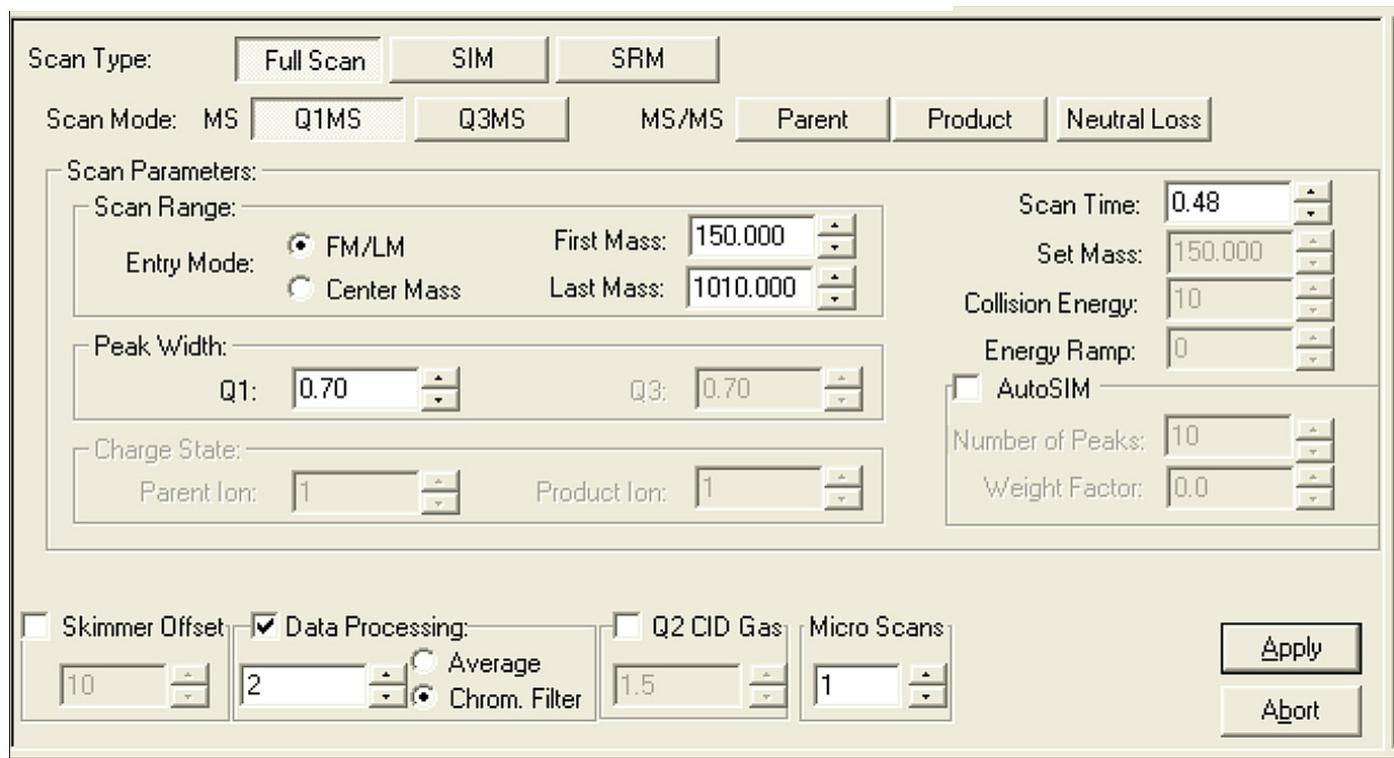

Figure 34. Define Scan view, showing settings for a full scan mass spectrum of polytyrosine - 1, 3, 6
- c. Set the scan parameters as shown in Figure 34.